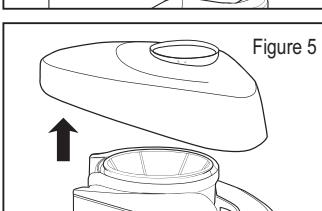

Figure 5
- Lift the lid up and remove it from the juice extractor (**Figure 5**)